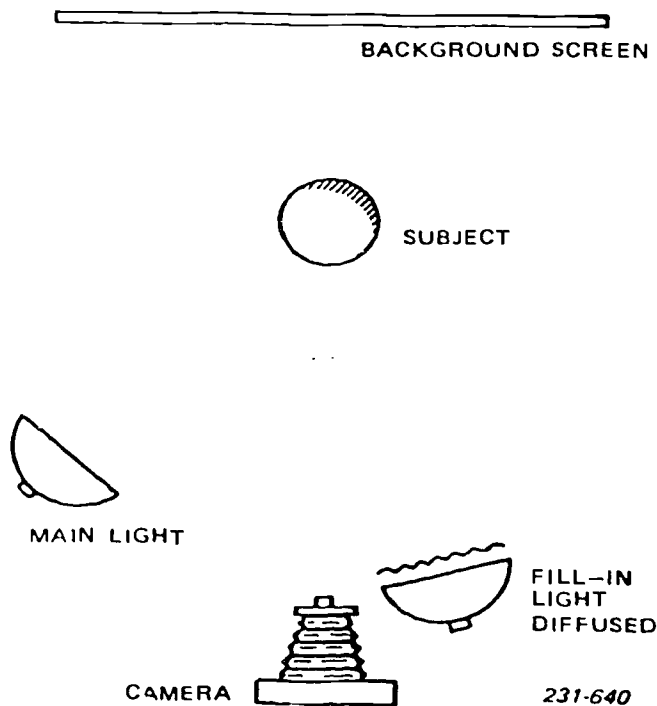

Figure 3-3. Add the fill-in light.
*The fill-in light.* The fill light is diffused, used close to the camera at lens height, and placed on the side of the lens opposite that of the main light. Its purpose is to soften the shadows cast by the main light. (See fig. 3-3.)